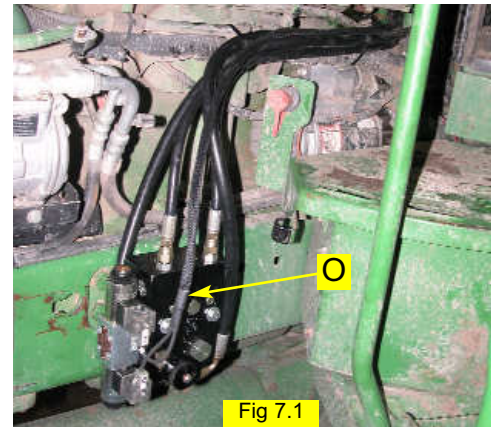

Fig 7.1
Route the valve control cable (O) from the hydraulic control block back behind the engine and across to the right side of the tractor. (Figure 7.1) Route the cable through the cab access window in the lower front corner of the cab. Remove enough slack out of the cable to prevent entanglement with tractor moving parts. Use tie straps as needed.